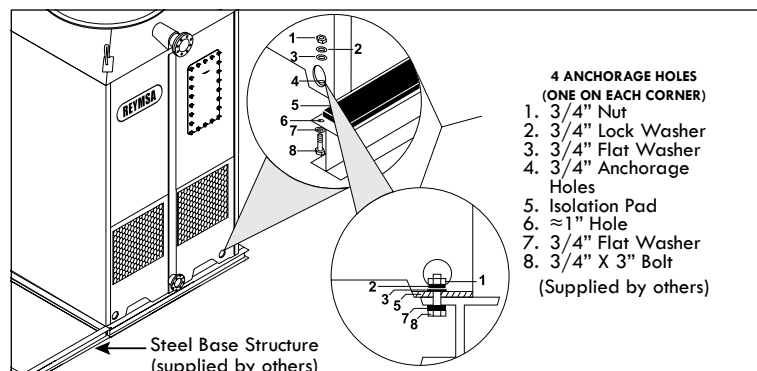

Figure A-43: Typical anchorage for a Four Fan Tower
- I. Place the Section #1 (unitized body & basin) of the Tower on top of the isolation pad and the base structure; Secure it with the galvanized steel nut and bolt sets (supplied by others) as shown on Figure A-43.
- J. Place Section #2 (unitized body & basin) on top of the isolation pad and the base structure next to Section #1 (unitized body & basin). Then bolt down and secure Tower Section #2 to the structural base with stainless steel nut and bolt sets (supplied by others) as shown on Figure A-43.